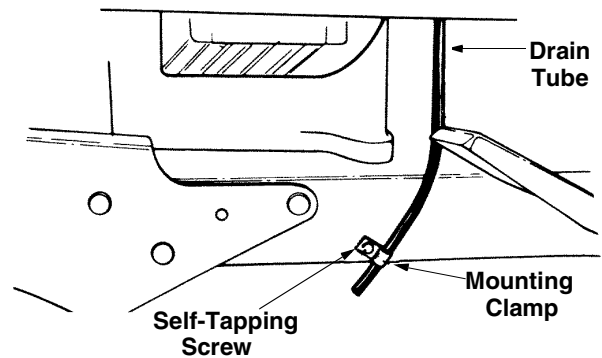

Figure 16
- Route the battery drain tube (if equipped) over to the left side of the tractor. Loosen the self-tapping screw which secures the mounting clamp. See Figure 16. Slip the end of the drain tube into the